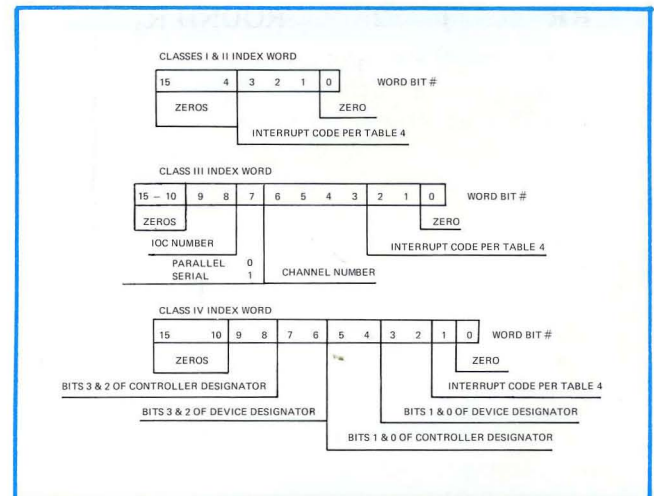

Figure 14. Interrupt Entrance Address Index
- See Figure 14 for index values.